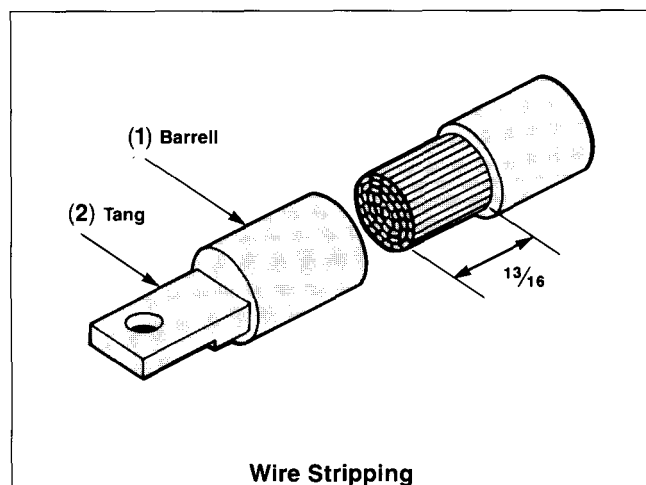

Figure 1
- Preform cables to final configuration and strip insulation back $1\frac{1}{8}$ in. on each conductor. Use an appropriate insulation stripping tool to avoid damaging the conductor. (See Figure 1.)
- Remove cap from compression connector and insert cable fully into barrel (1) (Figure 1) of connector.
- Insure that connector tang(s) (2) (Figure 1) are in their proper orientation prior to crimping. This helps avoid twisting of cables during installation.